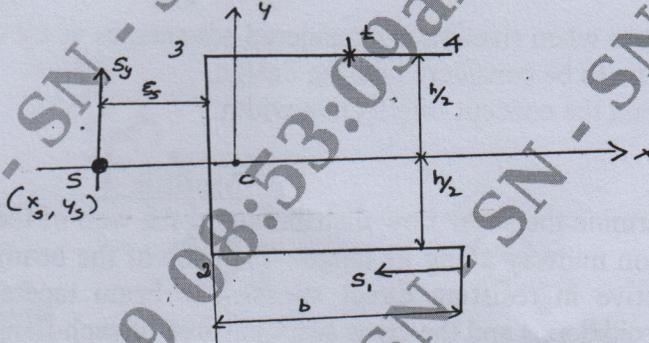

Fig.Q2(a)
- 2 a. Calculate the position of the shear center of the thin-walled channel section shown in Fig.Q2(a). The thickness t of the wall is constant. (10 Marks)